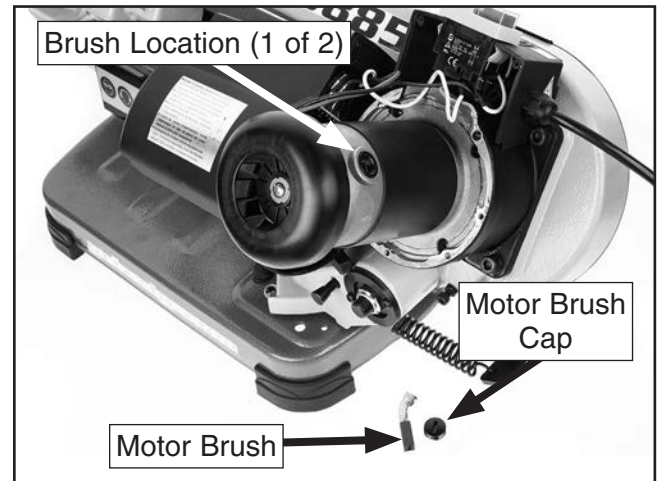

Figure 31. Motor brush cap location.
3. Remove upper and lower motor brush caps and motor brushes, as shown in **Figure 31**.